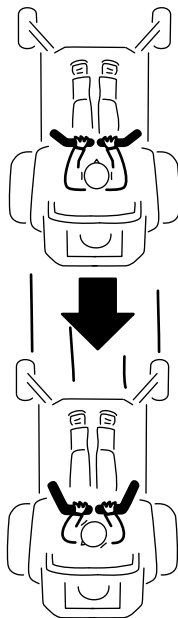

Figure 22
2. To go backward, slowly pull the motion control levers rearward (Figure 22).